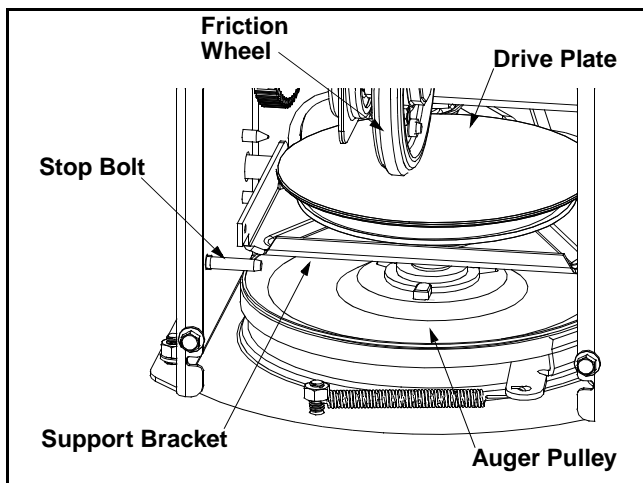

Figure 15
- Pull the idler pulley up, and lift the belt off the engine pulley and friction wheel disc. See Figure 15.